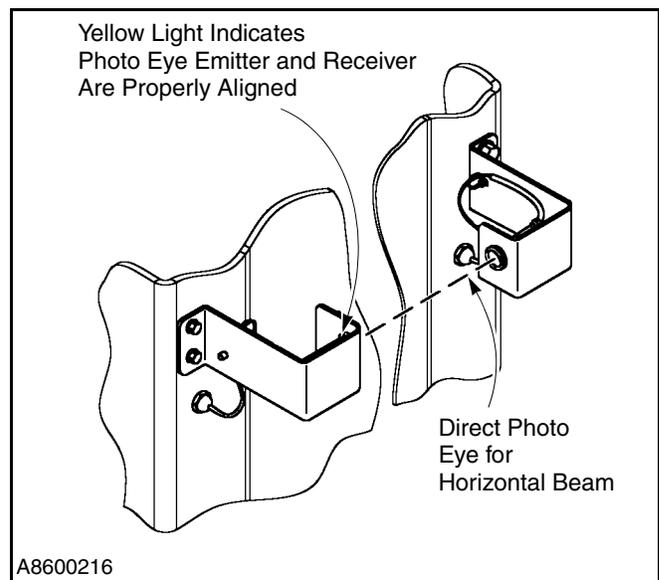

Figure 41
1. Verify that the photo eye emitter mounted on the front side of the door is aligned with the receiver on the opposite side of the door opening. The yellow light on the photo eye receiver will light when the emitter and receiver are properly aligned. (See Figure 41.)